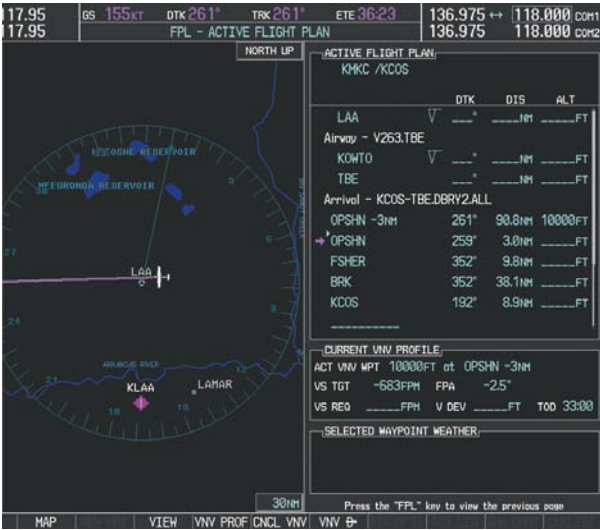

Figure 7-29 Direct-to Active
h) Press the **ENT** Key twice to activate the direct-to. Note, in Figure 7-29, the magenta arrow indicating the direct-to OPSHN after the offset waypoint for OPSHN. The preceding offset waypoint indicates the offset distance and altitude that were previously entered. The remaining waypoints in the loaded arrival procedure have no database specified altitudes, therefore, dashes are displayed. Keep the CDI centered and maintain a track along the magenta line to OPSHN.